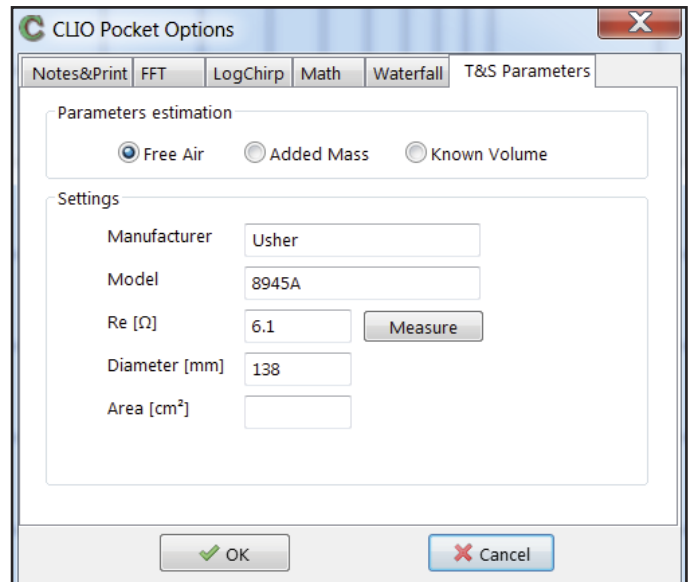

Figure 2: Driver data for Thiele-Small analysis
Next, load the free-air impedance measurement, open the CLIO Pocket Options window, and click the T&S Parameters tab opening the data entry menu for T-S measurement shown in **Figure 2**. Here you enter information describing the driver including manufacturer, model number, voice coil resistance (RE), and diaphragm diameter or area. If you do not know the RE, click on the "measure button" and CLIO Pocket will measure it. Then click on the Free Air button as this is the impedance data to be processed first.